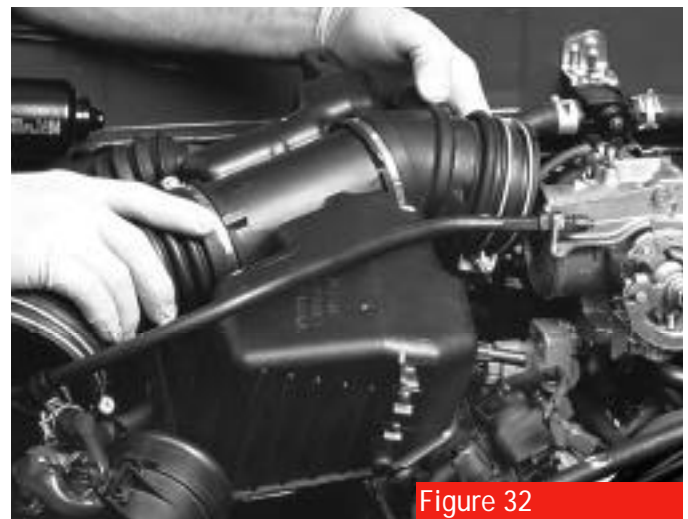

Figure 32
- Install the air inlet tube to the throttle body and Mass Air Flow Sensor and reconnect its hoses and tubes. Be careful not to damage the sensor (figure 32).